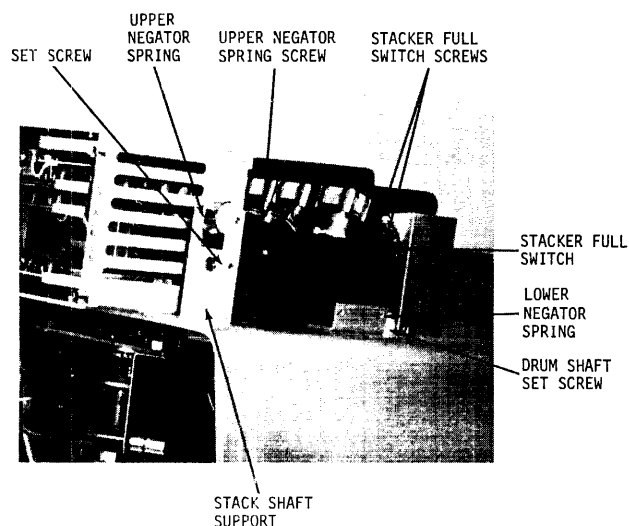

Figure 6-10. Stacker Full Switch Adjustment
- c. Using a small Phillips screwdriver, loosen the two screws retaining the stacker full switch bracket, figure 6-10.